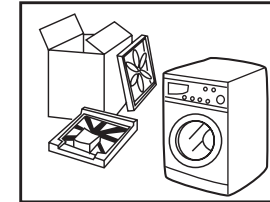
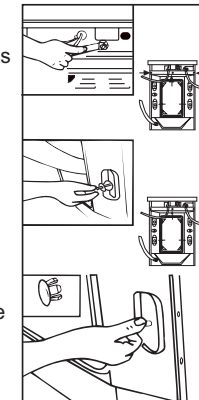

Fig. 1
Fig.2
- Remove all the packing materials (including the foam base) to prevent vibration during use, as shown in Fig.1. Upon opening of the package, water drops may be seen on the plastic bag and the porthole. This is normal phenomenon resulting from water test in the factory.
- Dismantle the packing bolts as shown in Fig. 2.
<p>3. Clean the detergent compartment regularly. For the detergent compartment similar to figure (a), raise the compartment slightly to remove and replace after cleaning.</p>  <p>Fig.(a)</p>	<p>4. Clean the filter Cleaning methods (once a month)</p> <ol style="list-style-type: none"> <li>1) Push out the outer cover (Fig. 1);</li> <li>2)Screw out filter by turning counterclockwise (Fig. 2);</li> <li>3) Flash clean with running water;</li> <li>4) Replace the filter by turning clockwise and remount the cover.</li> </ol> <p>Caution: The filter must be in place, or it may lead to leakage.</p>    <p>Fig1 Fig2 Fig3</p>